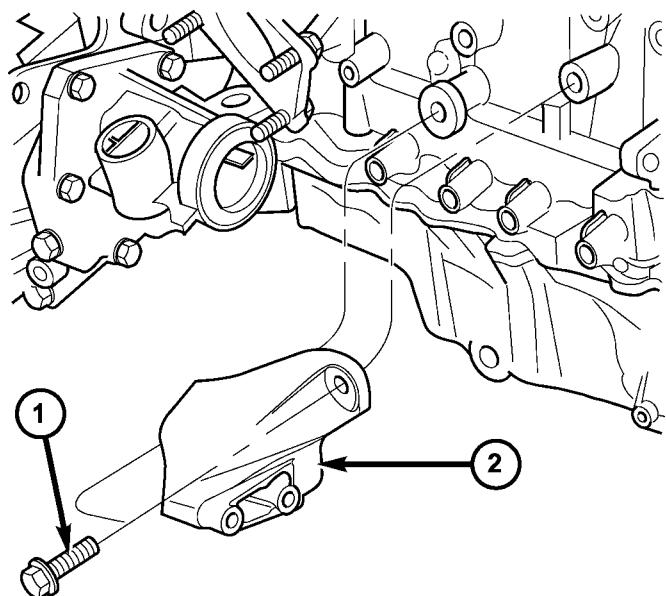

Fig. 2 Intermediate Shaft Support Bracket—2.4L Turbo Models
- (4) Inspect transaxle output seal and replace as necessary.
- (5) If necessary to remove support bracket, remove two (2) support bracket-to-engine block bolts and remove bracket (Fig. 2).
- (1) If support bracket was removed, install support bracket into position. Install two (2) support bracket-to-engine block bolts and torque to 54 N·m (40 ft. lbs.) (Fig. 2).